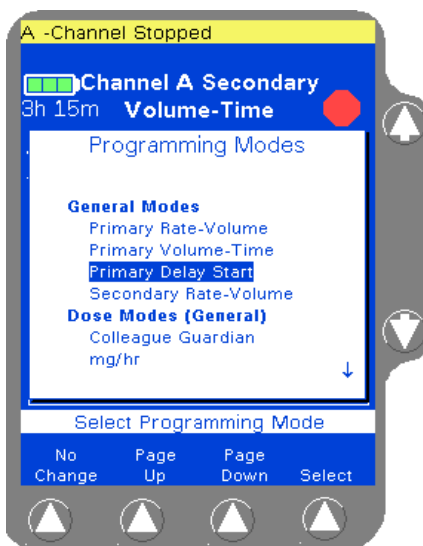

Figure 4-85 Programming Modes Menu
3. Use the $\uparrow\downarrow$ keys to highlight **Primary Delay Start** from the Programming Modes menu (Figure 4-85), then press the **Select** soft key.